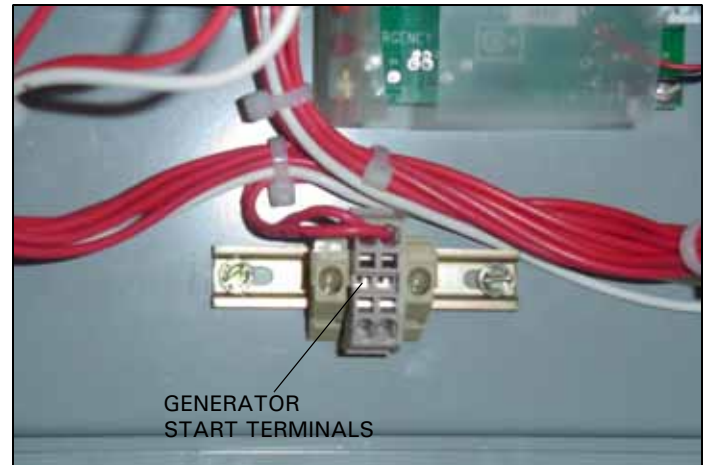

Figure 14. Generator Start Terminals Location.
Step 2: The generator start terminals are located at the bottom of the ATC-100 controller and are used when the generator has an automatic start feature (see Figure 14). See Section 4.9 for more detailed information on connecting the generator start cables.